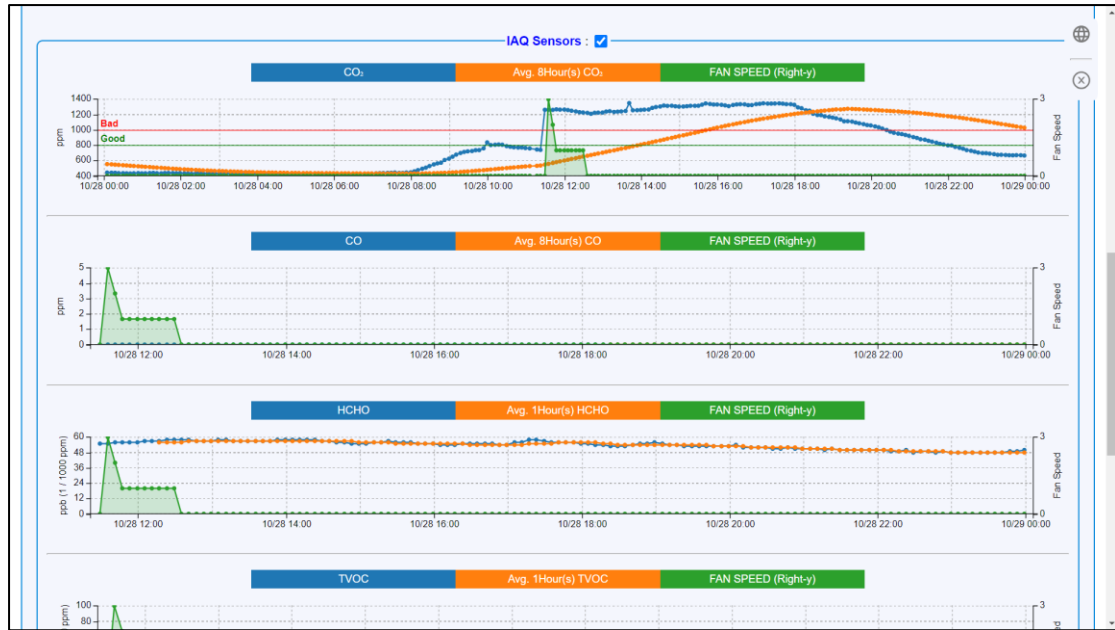

Figure 35 Historical Data of the Air Quality Sensor
- Historical data of the air quality sensor: Contains carbon dioxide (CO₂), carbon monoxide (CO), formaldehyde (HCHO), total volatile organic compounds (TVOC), ozone (O₃), PM10, PM2.5 and PM1. The historical air quality data chart will also display the moving average calculated in accordance with Taiwanese regulations and the operation status of the ventilation equipment at that time. For the calculation of moving average, see Table 12; **the number of fan stages (FAN SPEED) is 0 to 3: 0 for off, 1 for low, 2 for mid, and 3 for high.** As shown in Figure 35.